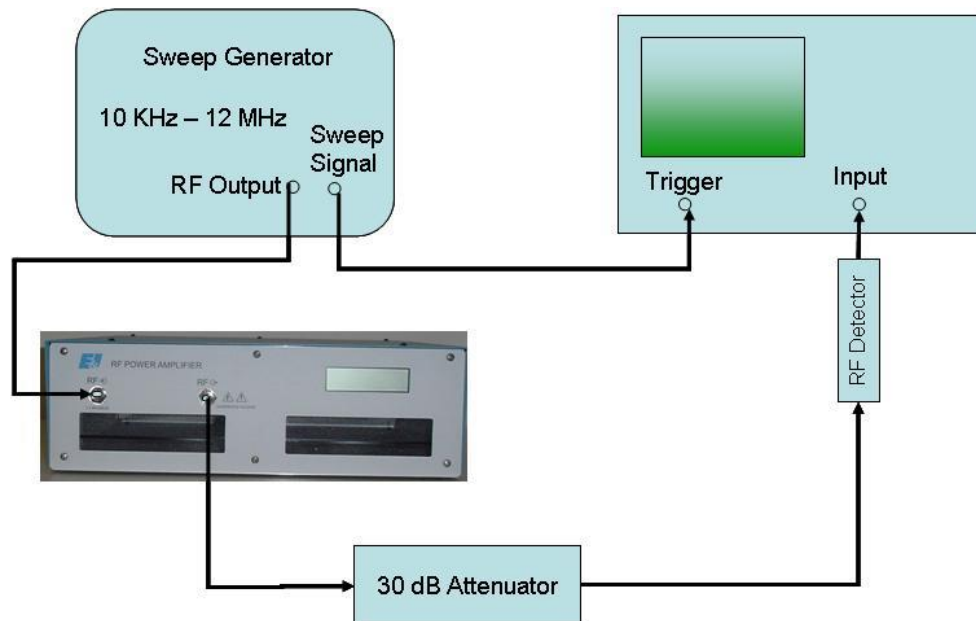

Figure 4-1. Gain Measurement
#### 2. Connect the equipment as shown in Figure 4-1, then proceed as follows:
- g) Reconnect the 2100L into the test set-up of Figure 4-1.